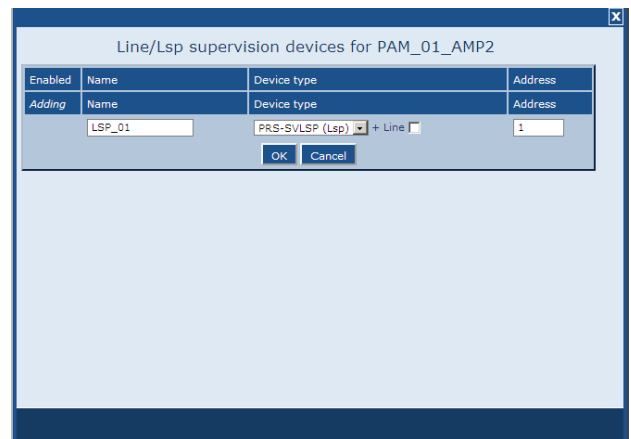

figure 43.17: Add supervision device, step 3
- 3 Enter the data of the supervision device (see figure 43.17 for an example).
- Enter the address that was assigned to the supervision device in the *Address* field (see figure 43.17).